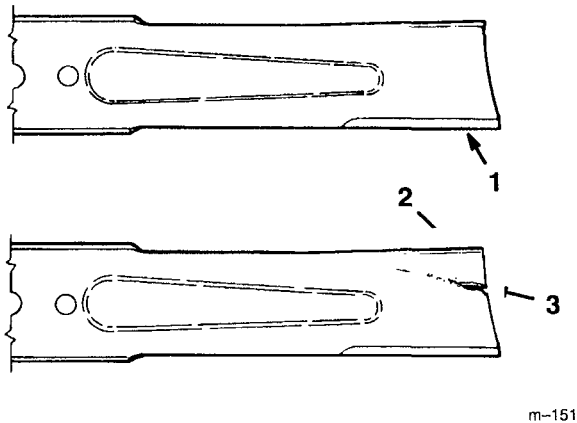

Figure 7
1. Inspect the cutting edges (Fig 7). If the edges are not sharp or have nicks, remove and sharpen the blades. Refer to Sharpening the Blades on page 9.
2. Inspect the blades, especially the curved area (Fig. 7). If you notice any damage, wear, or a slot forming in this area (item 3 in Fig. 7), immediately install a new blade.